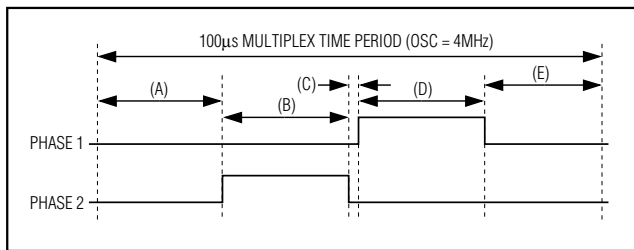

Figure 14. Filament Bridge Driver Timing Waveforms
The waveform generation uses PWM to set the effective RMS voltage across the filament, as a fraction of the external supply voltage (Figure 14) (Table 36). The filament switching frequency is synchronized to the multiplex scan clock, eliminating beating artifacts due to differing filament and multiplex frequencies.
The minimum commutation time, shown at (C) in Figure 14, is set by  $(2/\text{OSC})$ s (500ns when  $\text{OSC} = 4\text{MHz}$ ) to ensure that shoot-through currents cannot flow during phase reversal. Otherwise, the duty cycle of the bridge (total on time: total time) sets the RMS voltage across the filament. This technique provides a low-cost AC filament supply when using a regulated supply higher than the RMS voltage rating of the filament.